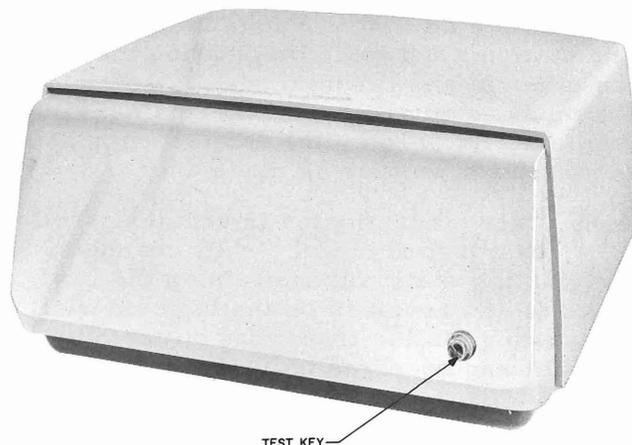

Fig. 1 - Data Set 103B
3.01 Data set 103B is composed of electronic and relay circuits and is enclosed in a two-tone gray plastic case (see Fig. 1 and 2).